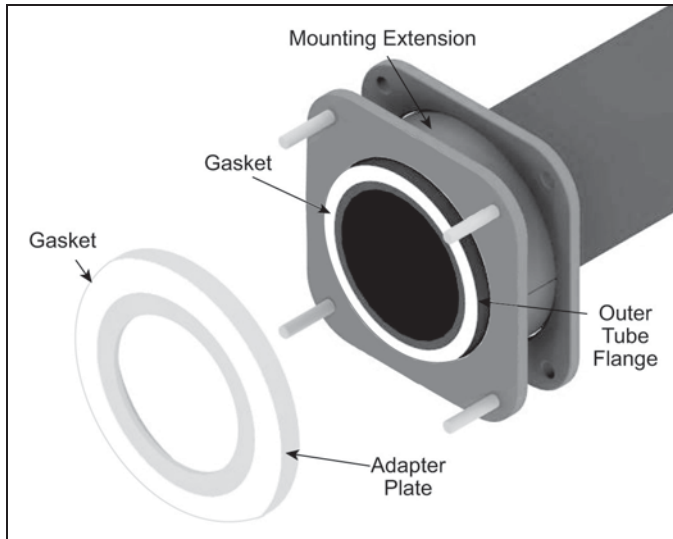

Figure 3.10.
6. Place gasket against adapter plate. See figure 3.10.